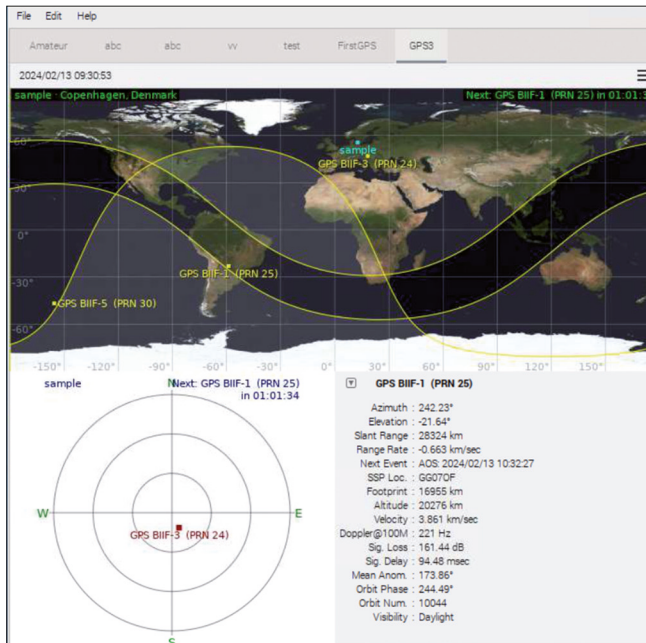
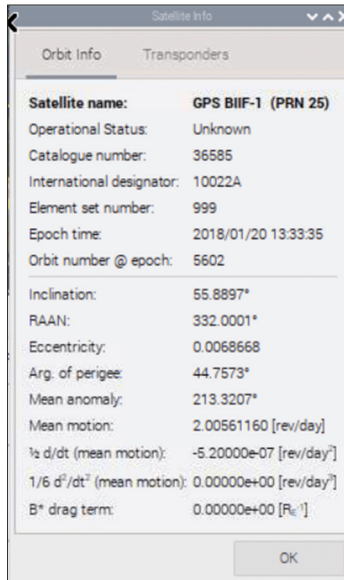

Figure 17.7 Map and selected satellites.
Figure 17.8: Double click on a satellite.
- The **Module Name** is set to **GPS3** in this example, and Figure 17.7 shows the map and satellite positions. You can double-click on a satellite to display data about it (Figure 17.8).